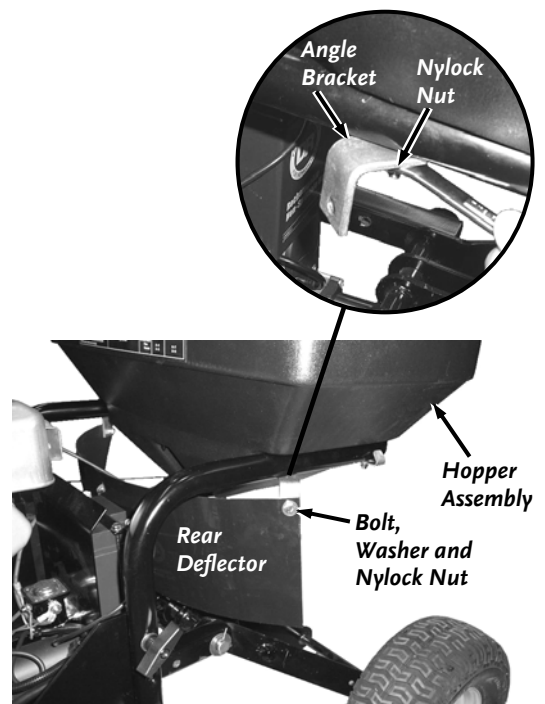

Figure 6
4. Remove two 1/4" Nylon Locknuts (7/16" Wrench) from the Hopper Assembly and position the two Angle Brackets and secure (hand tight) with the two Nuts you removed (**Figure 6**).